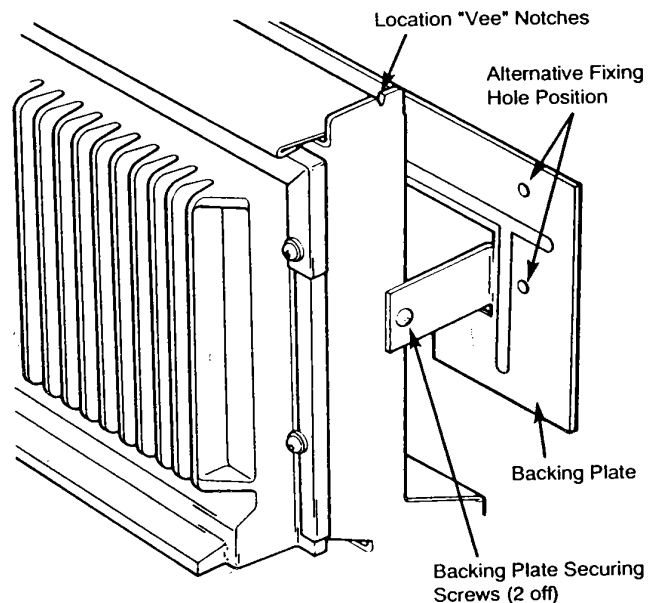

Fig. 5 Backing Plate
1. Fit the fire backing plate to the fire using the M5 x 8mm thread forming screws provided (Fig.5).
3. Mark the position of the most suitable pair of securing holes in the fire backing plate (Fig.5) and remove the fire. Drill and plug the wall with suitable plugs. Replace the fire and secure to the wall with suitable fixing screws.
3. Mark the position of the most suitable pair of securing holes in the fire backing plate (Fig.5) and remove the fire. Drill and plug the wall. Replace the fire and secure to the wall with the two fixing screws provided.
- (b) Lift the outercase over the heat exchanger and locate the two 'vee' notches in the top of the case into the 'vee' notches at the top of the inner case (Fig.5).